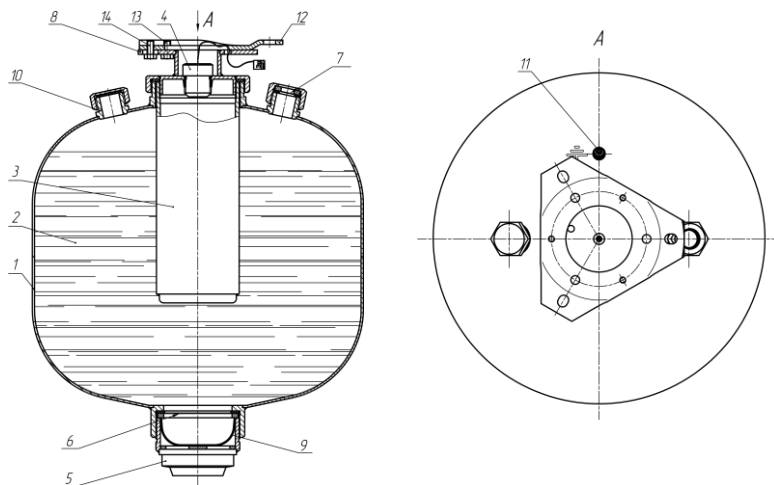

Fig.6 Construction of "Buran-15TRV" non-pressurised water mist module
4.1. The Module as shown in Fig.6 represents a hermetic device consisting of: